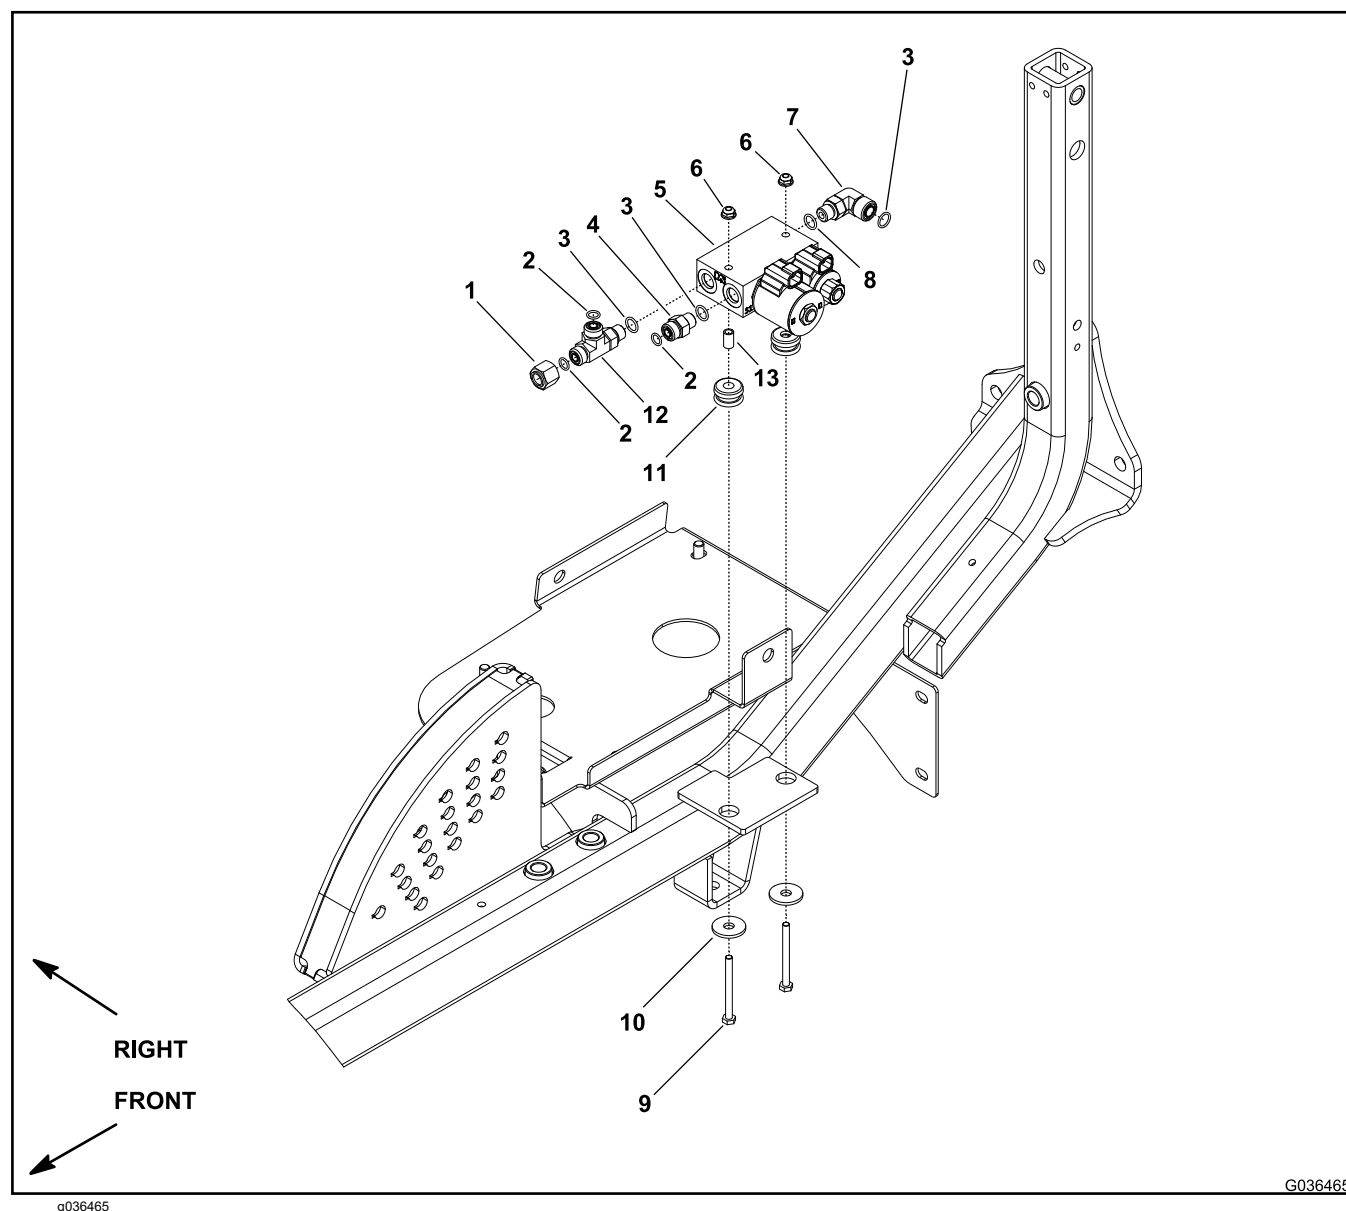

Figure 151
10. Remove the 2 screws (item 9 in Figure 151), 2 washers, and 2 flange nuts that secure the deck lift manifold to the bracket, and remove the deck lift manifold from the machine.
2. Position the deck lift manifold to the machine and secure the deck lift manifold with the 2 screws (item 9 in Figure 151), 2 washers, and 2 flange nuts.